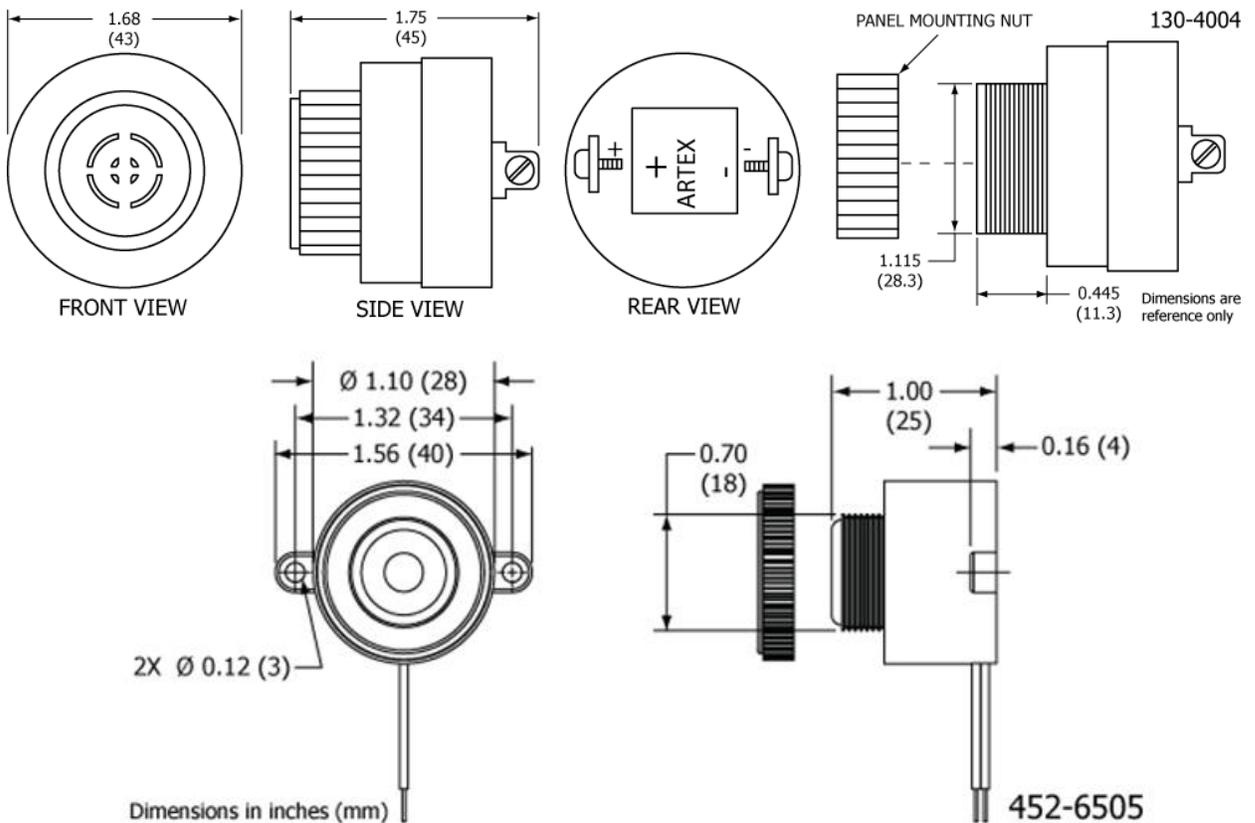

Figure 18 Buzzer Outline and Dimensions
- 2) Fabricate a support bracket for the buzzer. See Figure 18.